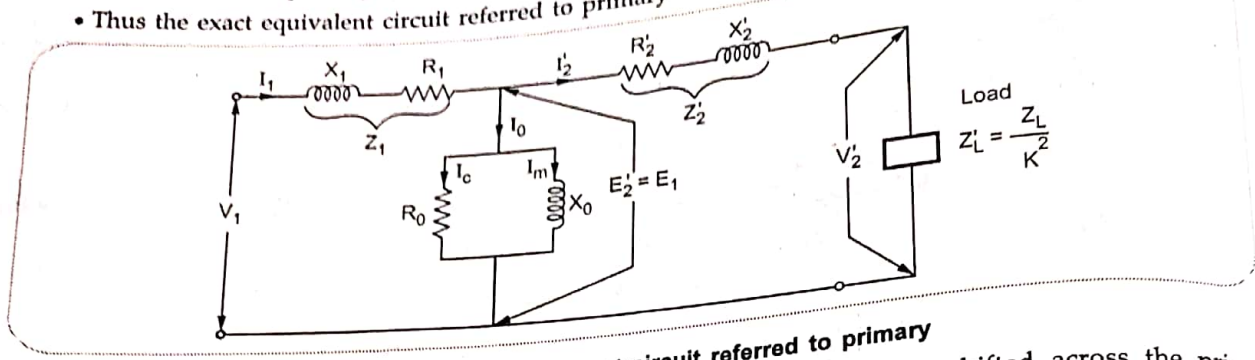

Fig. Q.16.2 Exact equivalent circuit referred to primary
- Thus the exact equivalent circuit referred to primary is as shown in the Fig. Q.16.2.